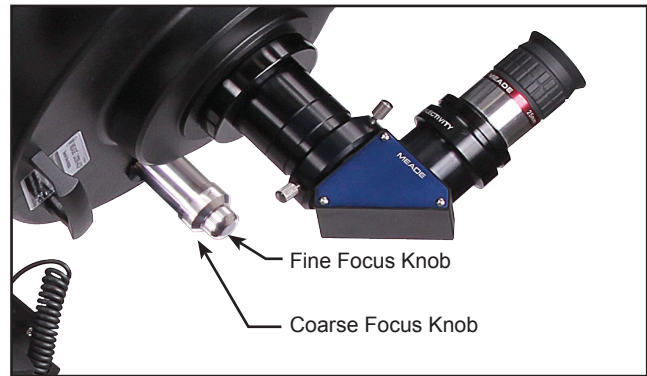

Fig 32: Dual speed Crayford focuser
and as the six (6) end feeds down grasp and pull it out, taking care not to pull the four-pin connector through the side passway in the DEC housing. Then feed the six-pin end down the RA shaft toward the DEC access door (**Page 8, Fig 32**). Slide open the cable access port door by loosening the two knurled knobs (**Page 9, Fig 41**). Observing through this port, and feeding the six-pin cable through, grasp it as it comes through the port. Again, take up the excess cable. This six-pin